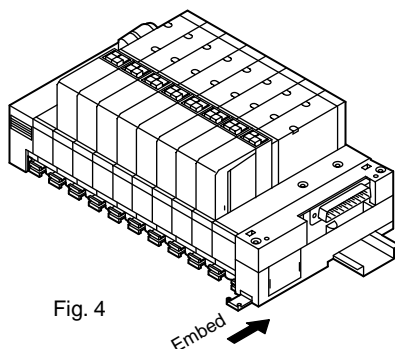

Fig. 4
- (1) Insert the main body (with plate) into the installation groove on the end block, and install the end block. Fix both onto the DIN rail.
- (2) Press in the key at the base of the block to prevent lifting up from the rail, and fix onto the rail. (Fig. 4)